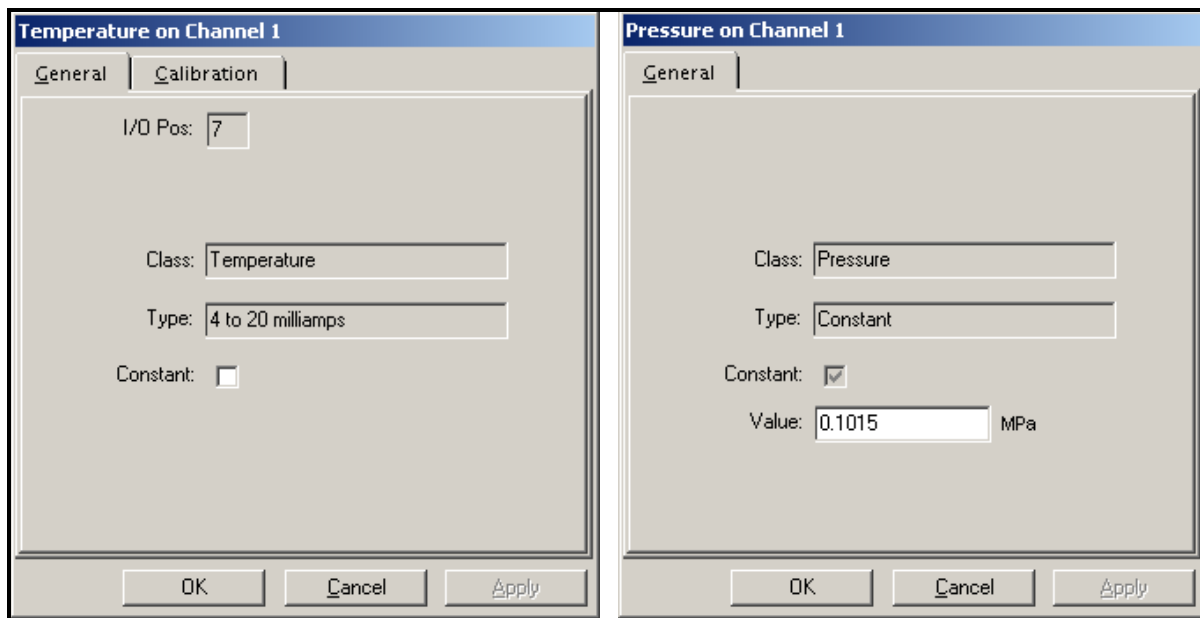

Figure 3-18: PanaView Temperature and Pressure (two separate displays)
3. Double click on the Temp or Pres option and the Temperature or Pressure display appears (see Figure 3-18 below).